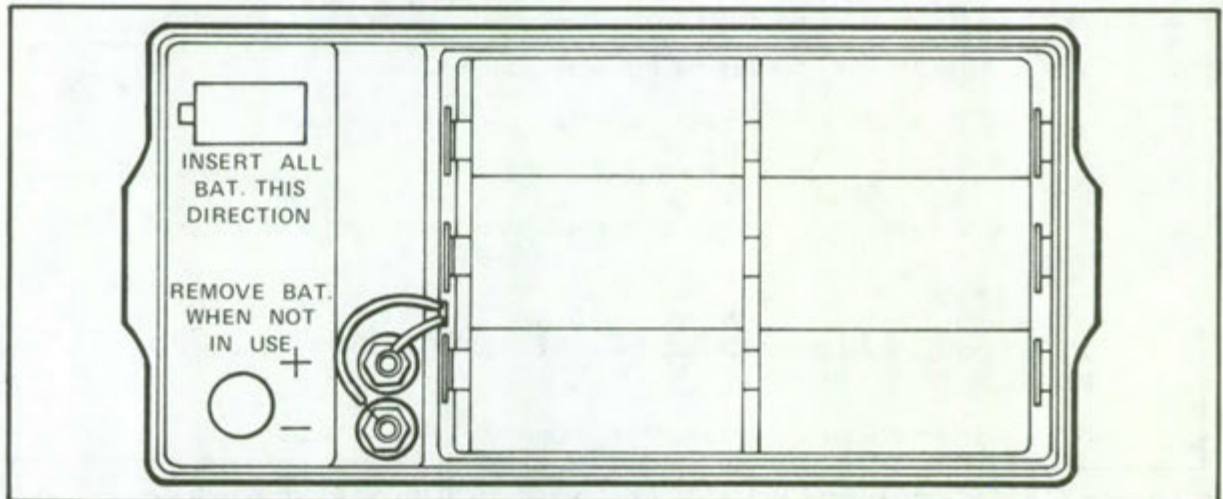

Figure 2. Local or remote control unit, rear view, cover removed.
- c. Install six BA-30 batteries according to the instructions on the rear of the case, and insure battery terminals are in contact with the battery contacts (figure 2).
- (1) Insure batteries are held in place under tension.
- (2) Insure that battery compartment case is not cracked.
- (3) Replace the rear cover and clamp it.
- (4) Insure all operating controls are free from internal or external binding.